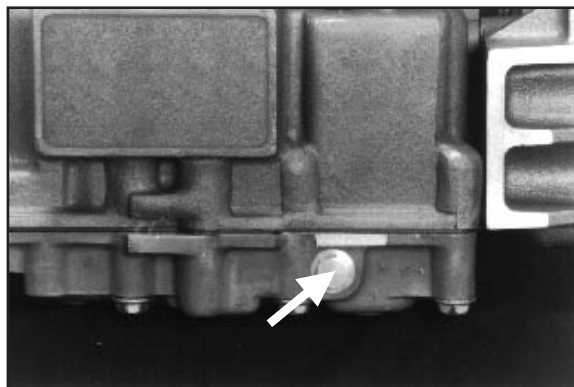

Fig. 5
- Begin by draining the oil from the transmission. Use caution, since the oil may be hot (**Fig. 5**).